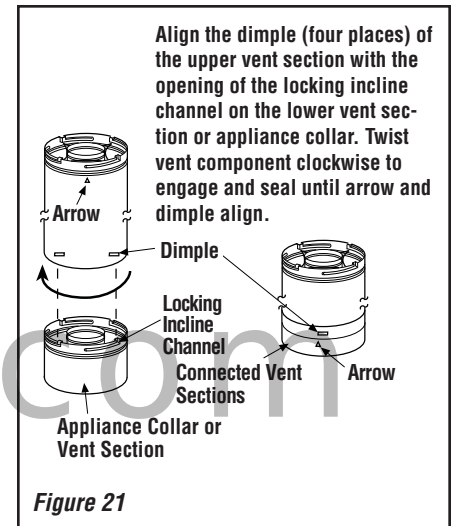

Figure 21
The dimpled end of the vent components fit over the appliance collar to create the positive twist lock connection. To attach a vent component to the appliance collar, align the dimpled end over the collar, adjusting the radial alignment until the four locking dimples are aligned with the inlet of the four inclined channels on the collar (refer to **Figure 21**). Push the vent component against the collar until it fully engages, then twist the component clockwise, running the dimples down and along the incline channels until they seat at the end of the channels. The unitized design of the **Secure Vent®** components will engage and seal both the inner and outer pipe without the need for sealant or screws. If desired a #6 x 1/2 in. screw may be used at the joint, but it is not required as the pipe will securely lock when twisted.
This seating position is indicated by the alignment of the arrow and dimple as shown in Figure 21.
Secure Vent SV4.5 direct vent system components are unitized concentric pipe components featuring positive twist lock connection, (refer to **Figure 21 on Page 15**). All of the appliances covered in this document are fitted with collars having locking inclined channels. The dimpled end of the vent components fit over the appliance collar to create the positive twist lock connection.
D. Attach vent components to appliance—To attach a vent component to the appliance collar, align the dimpled end over the collar, adjusting the radial alignment until the four locking dimples are aligned with the inlets of the four incline channels on the collar (refer to **Figure 21 on Page 15**).
E. Attach vent components to each other—Other vent sections may be added to the previously installed section in accordance with the requirements of the vent tables. To add another vent component to a length of vent run, align the dimpled end of the component over the inclined channel end of the previously installed section, adjusting the radial alignment until the four locking dimples are aligned with the inlets of the four incline channels of the previous section. Push the vent component against the previous section until it fully engages, then twist the component clockwise running the dimples down and along the incline channels until they seat at the end of the channels. **This seating position is indicated by the alignment of the arrow and dimple as shown in Figure 21 on Page 15.**